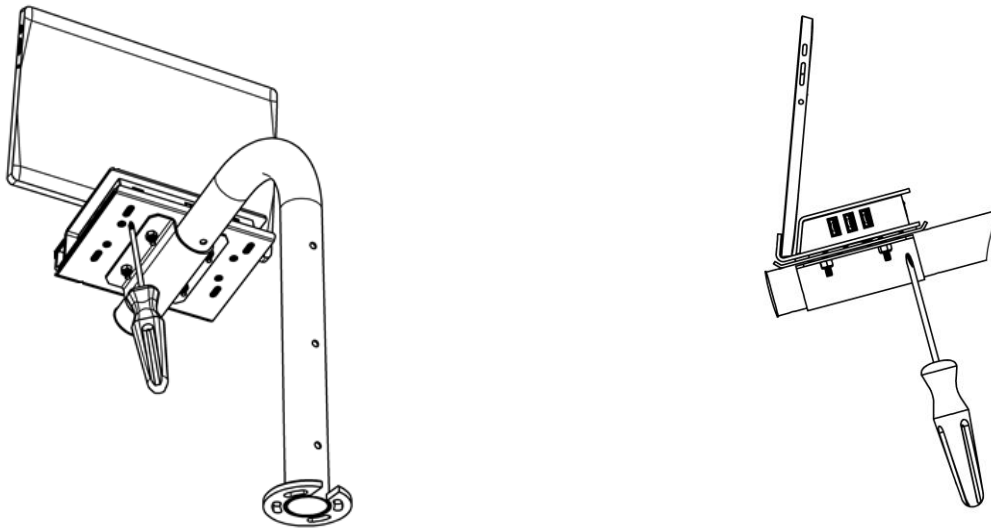

Figure 2.7. Attaching the Tablet to the Interface Module
- Using a Philips head screwdriver, loosen the four 6-32 x .38" SST screws under the Interface Module shelf, but do not remove them (see Figure 2.7).
- Insert the tablet into the opening on the front of the Interface Module (refer to the Side View in Figure 2.7 for proper placement of the tablet).